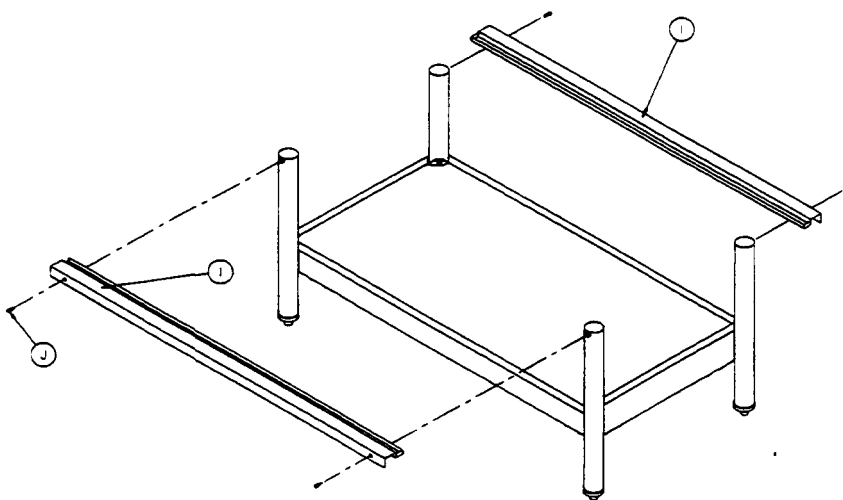

Figure 4
- 8. Position top front and rear support item "I" over leg assemblies as shown in Figure 4. Secure into legs assemblies with 1/4 - 20 x 5/8 hex head bolts Item "J."